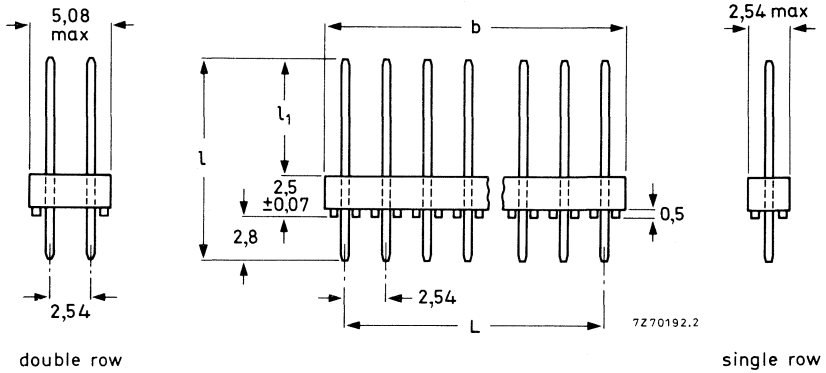

Fig. 4. Male header with straight pins. See table for dimensions b and L .
- male headers with straight (Fig. 4) or right-angled pins (Fig. 3) for accommodating mini wire-wrap or soldered joints or mating panel sockets and board edge sockets.